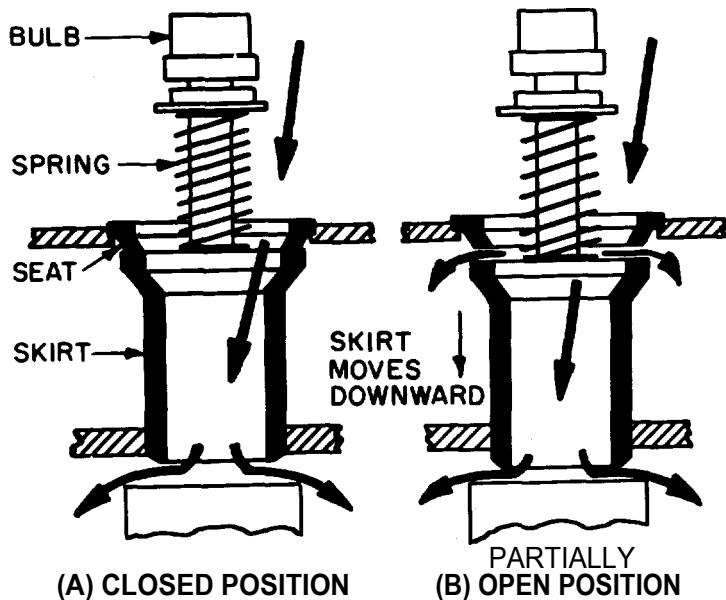

Fig. 6-1. Operation of thermostats
The thermostats function as two-way valves. When water temperature is below their operating point, as in Fig. 6-1 (A), they pass the water directly through their cylindrical bodies to the water tank below.
When the water temperature increases, the temperature-sensitive compound in the bulb (located on top) expands, overcoming spring pressure and forcing the skirt downward. (See Fig. 6-1 (B).) As this skirt moves, the opening at the bottom becomes more and more restricted, while the **previously** closed opening at the top of the skirt - increasing in size - permits water pressure to start building up in the adjacent chamber.